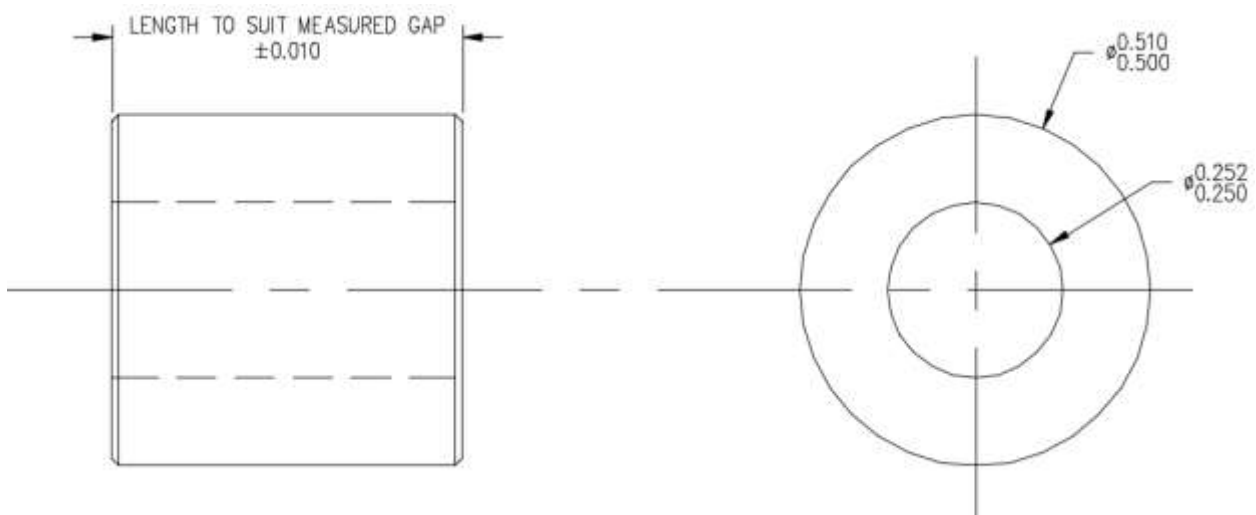

Figure 8 – Outboard Hinge spacer (dimensions in inches) change ID
Operators or Maintenance Providers may choose to locally manufacture custom spacers rather than using washers. If so, use 4130 steel bar per MIL-S-6758 or AMS-S-6758 and the dimensions shown in Figure 8.
Operators or Maintenance Providers may choose to locally manufacture custom spacers rather than using washers. If so, use 4130 steel bar per MIL-S-6758 or SAE-AMS-S-6758 and the dimensions shown in Figure 8.
8.9. Make a spacer to suit the gap on the outboard side of the Outboard Hinge to the dimensions in Figure 8. Make the spacer from 4130 round bar per MIL-S-6758 or AMS-S-6758 and break all sharp edges.